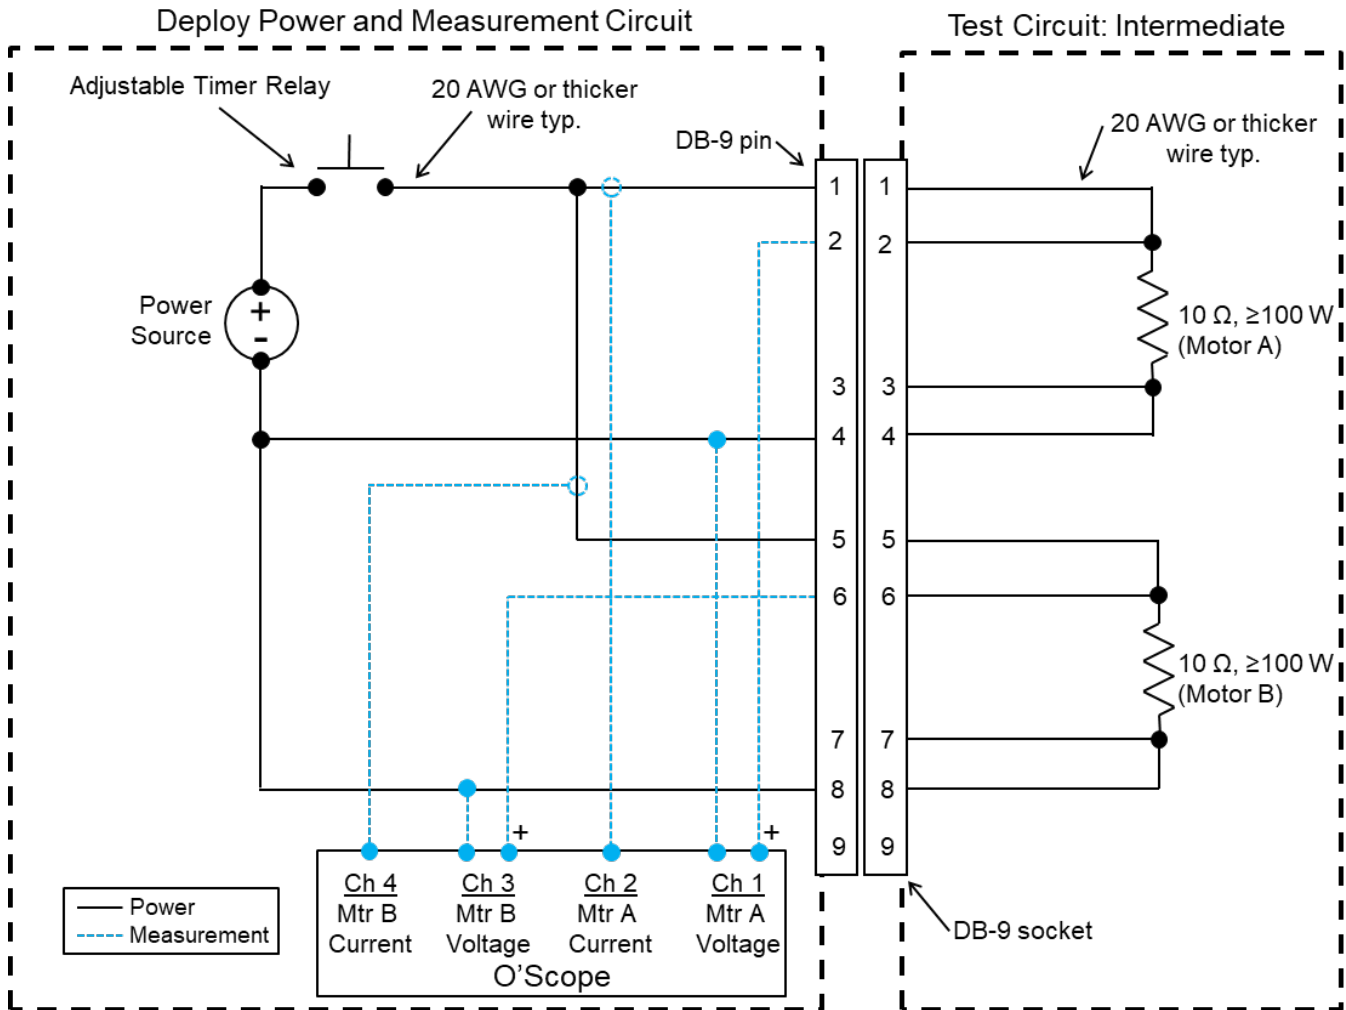

Figure 11-2: Deploy test circuit #2
11.2.1	Set up the Test Circuit: Intermediate portion of Deploy Test Circuit #2 per Figure 11-2 and connect to the Deploy Power and Measurement Circuit .